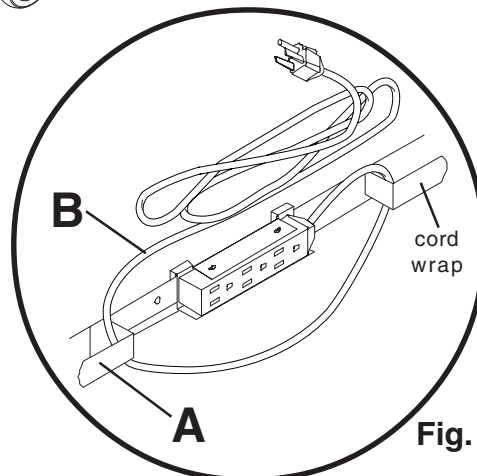

Fig. 1.2
**1-2** Wrap extension cord (B) around cord wrap (A) as shown in fig. 1.2.